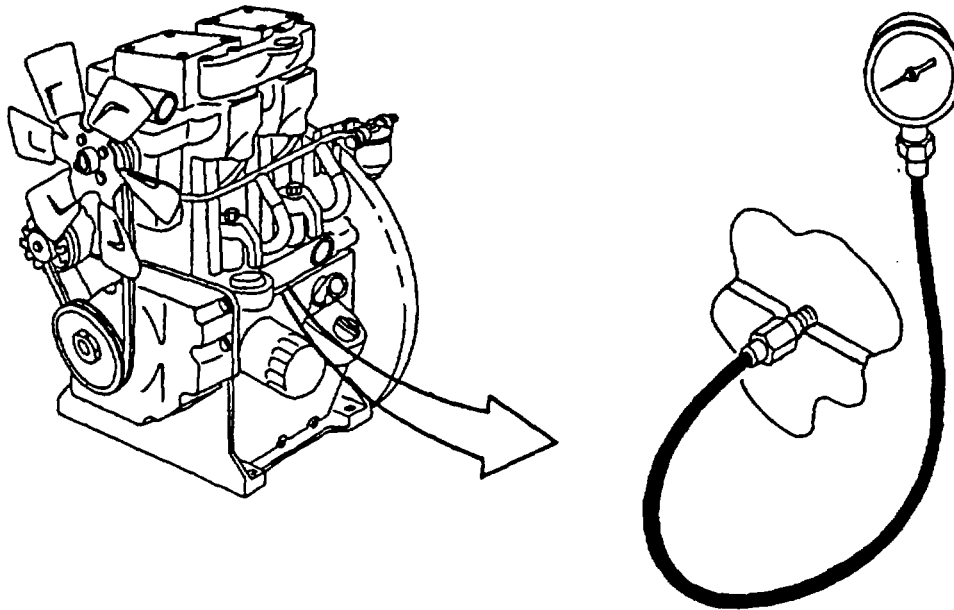

FIGURE 3-18. Oil Pressure Test Setup
- a. Tag and disconnect electrical leads to oil pressure sender, remove oil pressure sender, and install test pressure gage 0-150 psi (01034 kPa), refer to FIGURE 3-18.